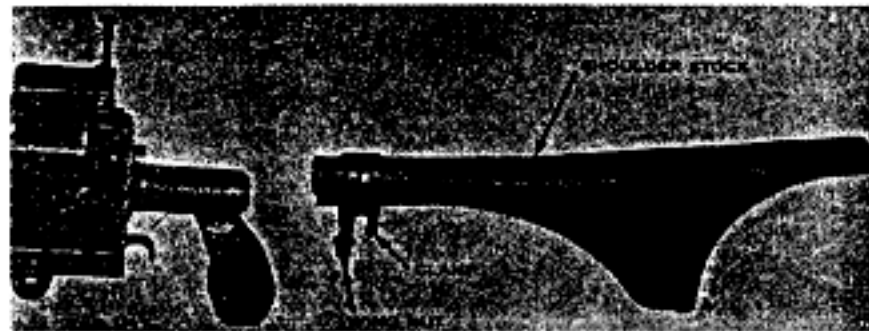

Figure 8. Shoulder stock, machinegun, M1919A6.
- (2) General assembly begins with the bolt forward and cover raised. Before the weapon is disassembled, it must be cleared as outlined in paragraph 29.
- (3) To remove the *shoulder stock* of the M1919A6 gun (fig. 8), loosen the wingnut on the clamp assembly and slide the stock assembly off the buffer tube.